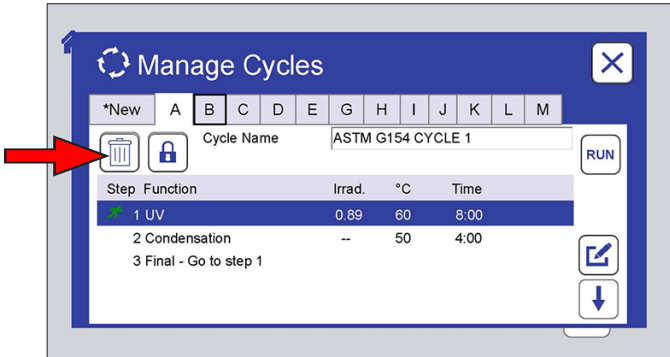

Figure 9.6.2a: Touch the delete icon to delete the selected cycle.
- o Delete a cycle (Figure 9.6.2a).